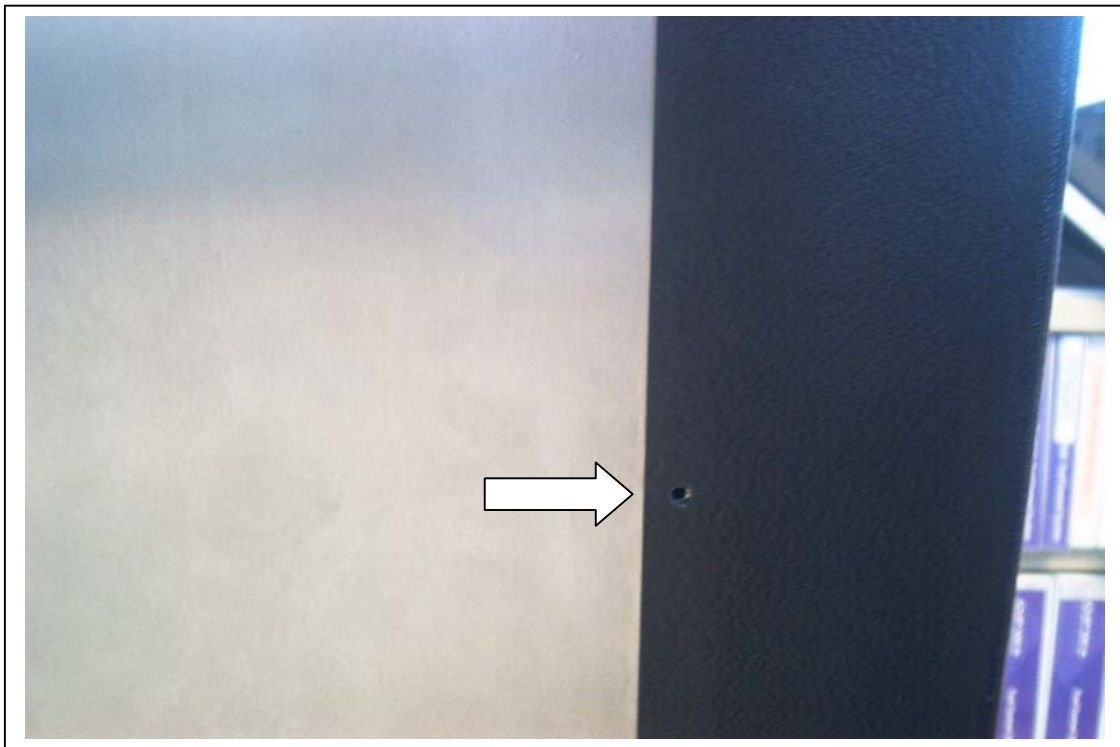

Figure 2. Locate Holes
- Use the drilled shroud to locate the holes to be drilled in the enclosure. **Figure 2.**
- Install the shroud on the cleaned enclosure and mark the (6) holes.